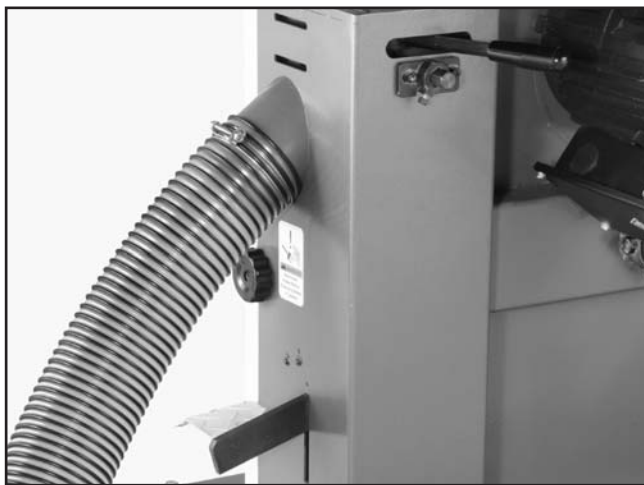

Figure 20. Dust hose attached to dust port.
2. Fit the 4" flexible hoses over the dust ports, as shown in **Figure 20**, and tighten.